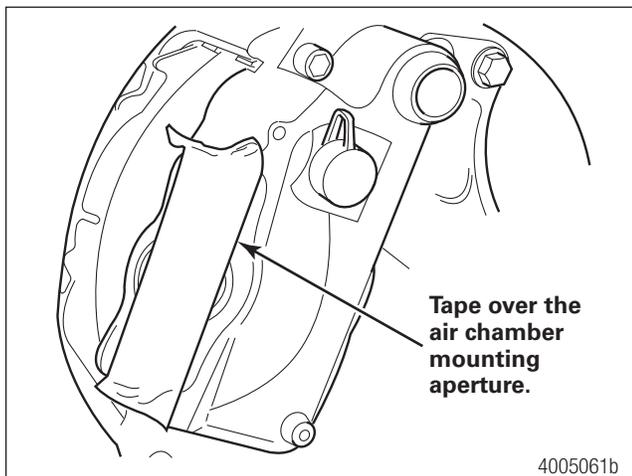

Fig. 10.4 Cover the air chamber opening.
STEP 8 - If the chamber is removed and not replaced, cover the exposed air chamber mounting aperture with tape to prevent debris from entering the caliper housing assembly. Figure 10.4.